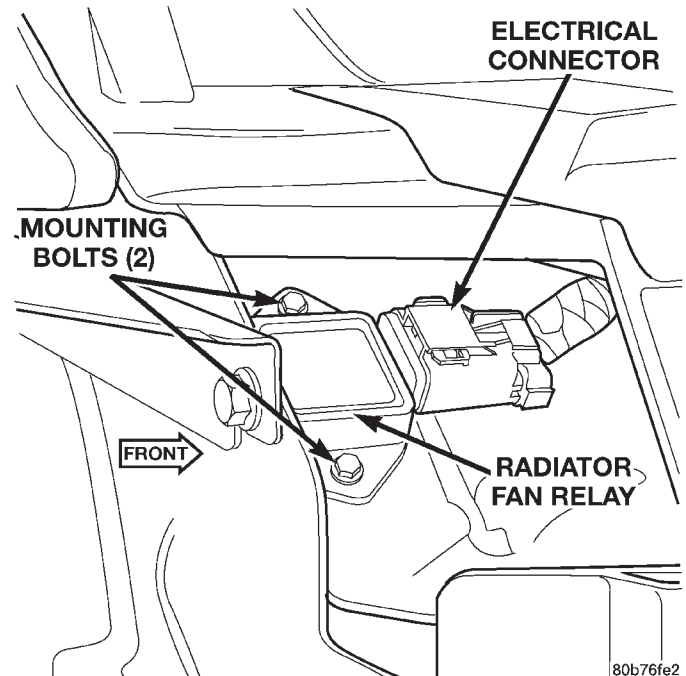

Fig. 39 Radiator Cooling Fan Relay Removal/Installation
(5) Disconnect electrical connector at relay (Fig. 39).
(6) Remove 2 relay mounting bolts (Fig. 39) and remove relay.